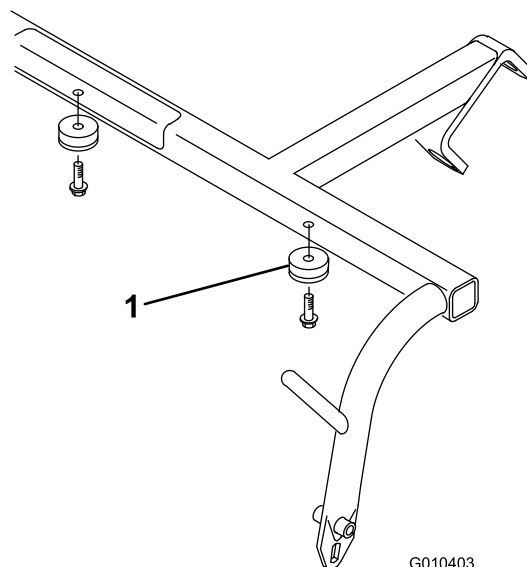

Figure 2
2. Mount 2 recessed bumpers to the underside of each pull frame cross tube with 2 washer head self tapping screws (1/4 x 3/4 in.) (Figure 2).